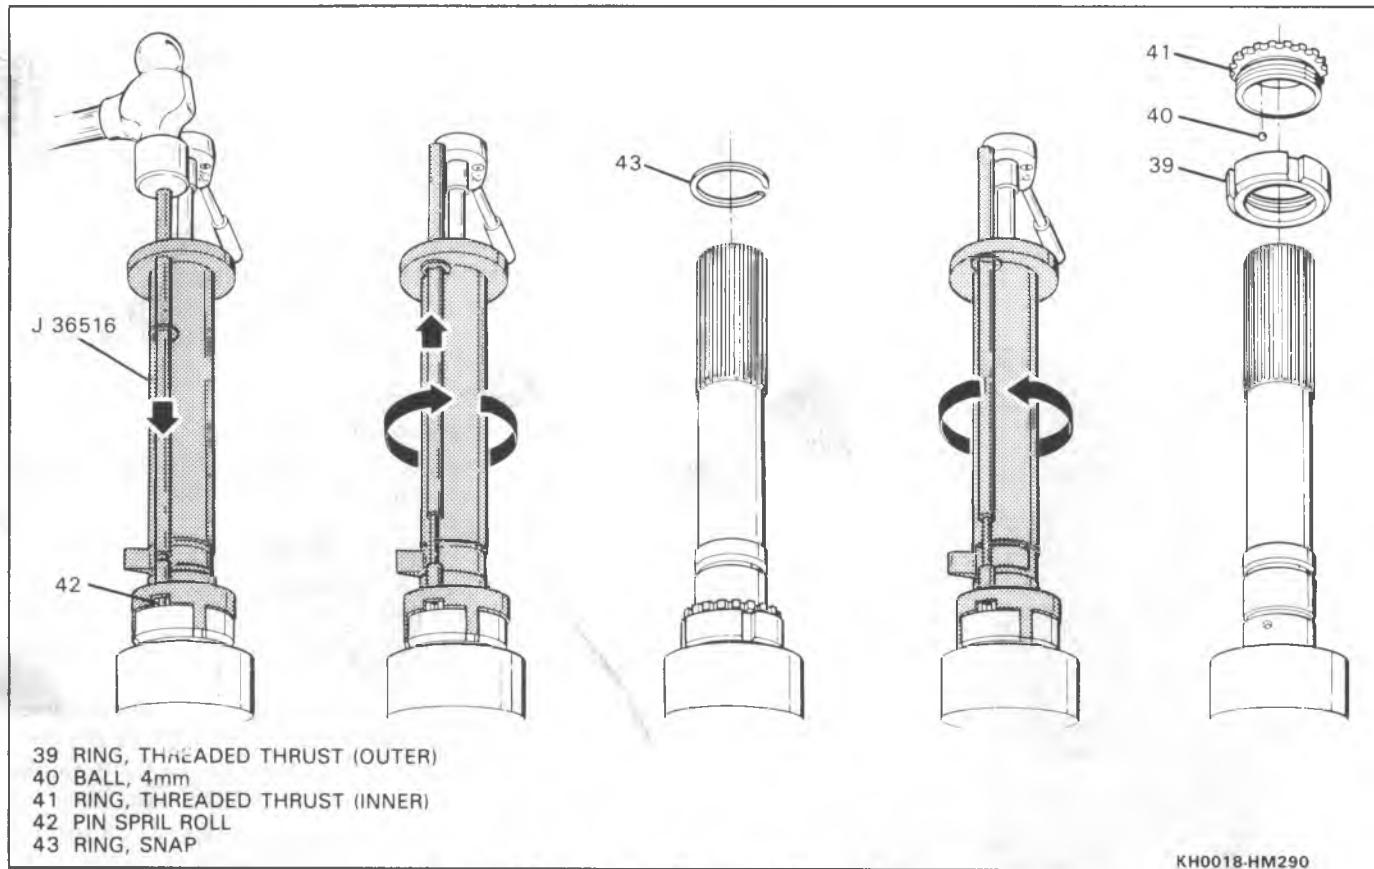

Figure 18 Removing Threaded Thrust Rings
30. Spiral roll Pin (42) using J 36516 (Figure 18).